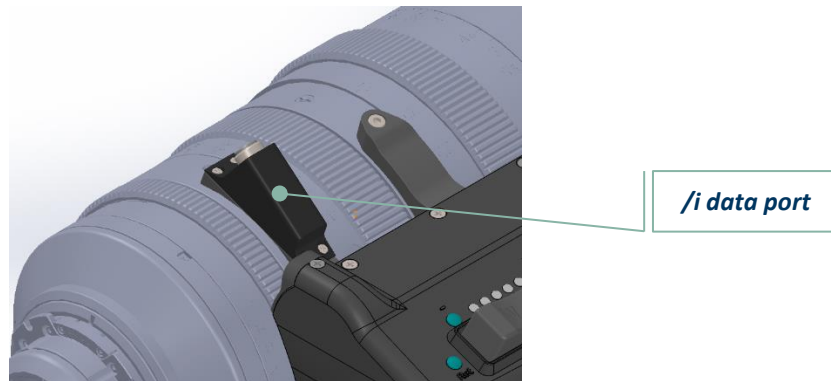

Figure 2
7. If needed, mount the i/-data port removed from the lens in step #2 with the additional included crosshead screwdriver on top of the interface bar. Note the flipped orientation (see Figure 2 ).